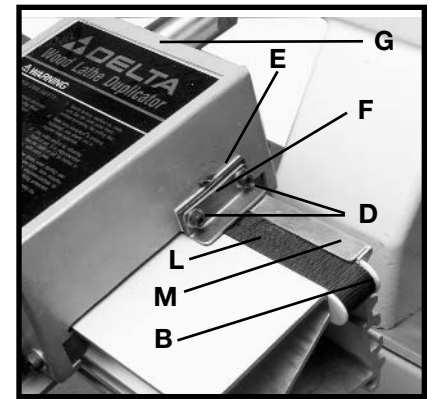
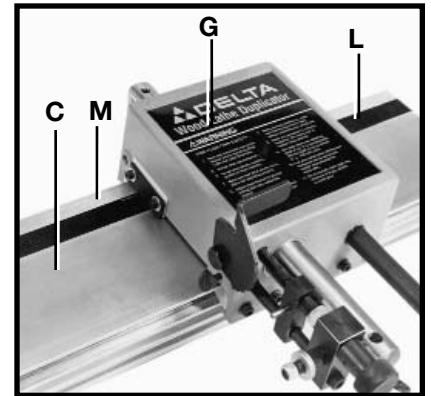

Fig. 18
Fig. 19
6. Line up holes in wiper (E) Fig. 18, retainer plate (F), and angle bracket with the two holes on the side of the carriage (G) and fasten the belt (L) to the carriage with the two hex socket head screws and flat washers (D) removed earlier.
7. Attach belt (L) Fig. 18 under the lip (M) of the duplicator rail and around the guide (B). Pass belt (L) inside and through duplicator rail (C) Fig. 19 and out the other end of the duplicator rail. **IMPORTANT:** Make certain belt is not twisted inside duplicator rail.
8. Wrap the loose end of the belt (L) Fig. 19 around the guide on the left side of the rail (C) and under the lip (M) of the guide rail. Fasten the belt (L) to the side of the carriage (G) by repeating **STEPS 5 and 6**.